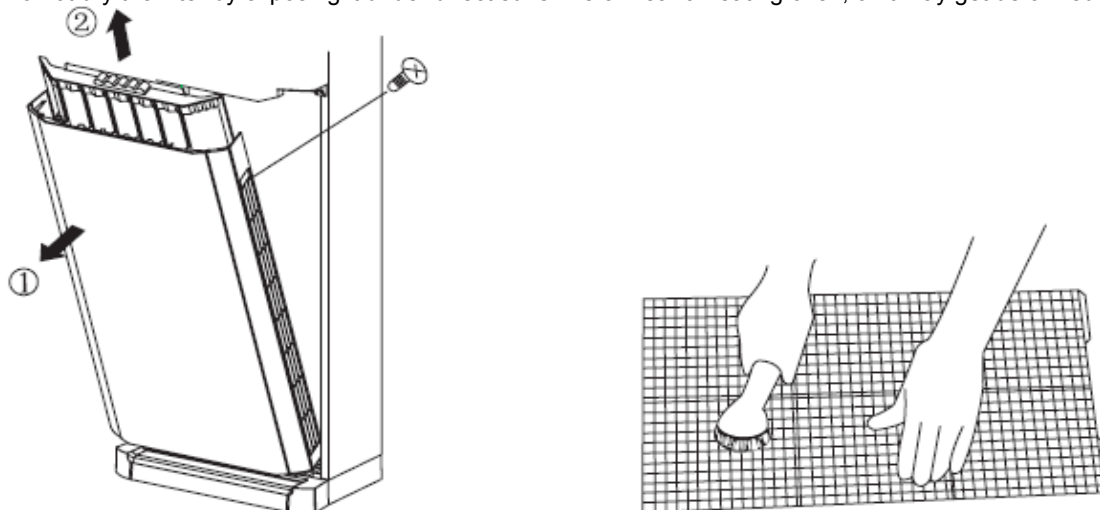

Fig. 7.2
As shown in Fig. 7.2, take out the decorative strip at position ① and unscrew the screw. After opening the glass panel and unscrew the screws fixing the air filter. At last pull out the air filter along the arrow direction.
Slightly flat the filter or clean the filter with electric cleaner. If there is too much dust on the filter, clean it with a little neutral detergent or warm water. After that, dry the filter and reinstall it, as shown in Fig.7.2.